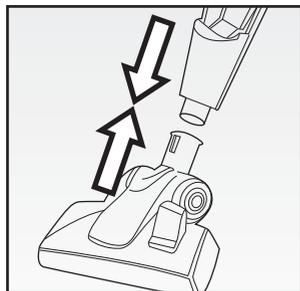

Fig. 3
- Insert the brush (J) into the motor body. Press gently until it is completely inserted (Fig. 3).